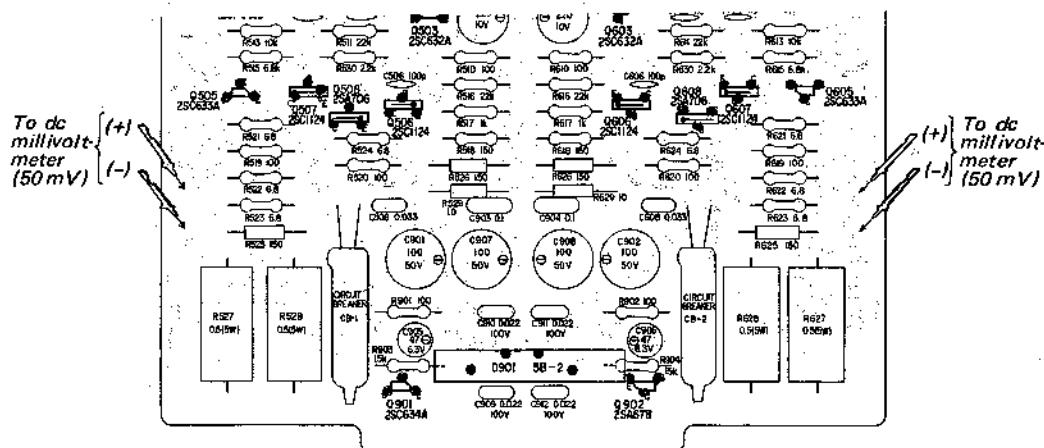

Fig. 3-1. Dc millivoltmeter connection
To avoid accidental power transistor damage, increase the ac line voltage gradually, using a variable transformer, while measuring the voltage across test points as shown in Fig. 3-1. Check to see that the reading does not exceed 50 mV. If it does, turn off the power as soon as possible, then check and repair the trouble in the power amplifier board.
2. Connect the dc millivoltmeter across the test terminal post as shown in Fig. 3-1.